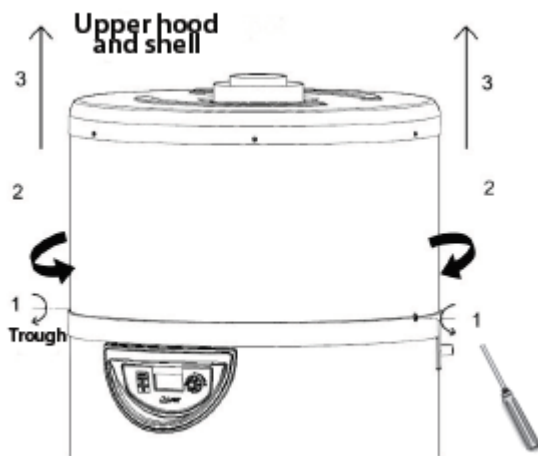

Figure 18: Hood removal
1. Remove insulation from ducting as well as the ducting itself and thus remove the hood from the unit as per figure 18 to expose the compressor, heat exchanger etc.
Condensates are not draining	<ul style="list-style-type: none"> <li>- The draining system for dirt or blockages: Remove the cover (see Figure 18) and check the opening.</li> <li>- That tubes do not have bends or "U" shapes that can collect water.</li> <li>- That the end of the tube is not blocked off and has access to open air.</li> </ul>